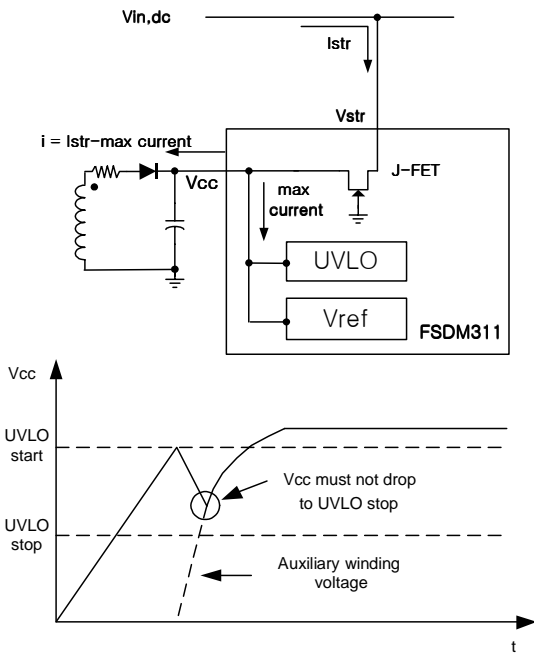

Figure 5. Charging the Vcc capacitor through Vstr
4.1 Over Load Protection (OLP) : Overload is a load current that exceeds a pre-set level due to an abnormal situation. If this occurs, the protection circuit should be triggered to protect the SMPS. It is possible that a short term load transient can occur under normal operation. If this occurs the system should not shut down. In order to avoid false shut-downs, the over load protection circuit is designed to trigger after a delay. Therefore the device can discriminate between transient overloads and true fault conditions. The device is pulse-by-pulse current limited and therefore, for a given input voltage, the maximum input power is limited. If the load tries to draw more than this, the output voltage will drop below its set value. This reduces the opto-coupler LED current which in turn will reduce the photo-transistor current. Therefore, the 400uA current source will charge the feedback pin capacitor, Cfb, and the feedback voltage, Vfb, will increase. The input to the feedback comparator is clamped at around 3V. Therefore, once Vfb reaches 3V, the device is switching at maximum power. At this point the 400uA current source is blocked and the 5uA source continues to charge Cfb. Once Vfb reaches 4.5V, switching stops. Therefore the shutdown delay time is set by the time required to charge Cfb from 3V to 4.5V with 5uA as shown in Fig. 5.